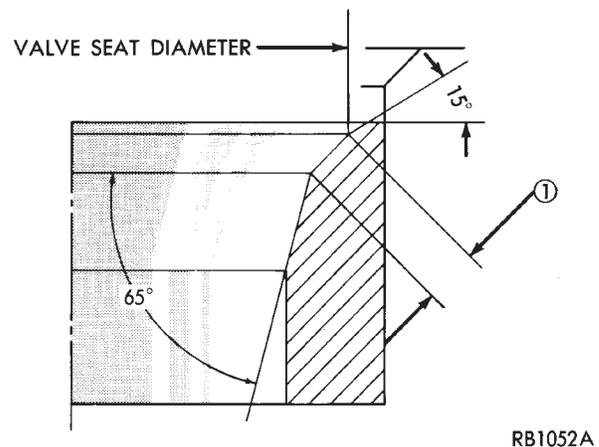

Fig. 24 Refacing Valve Seats
(6) When seat is properly positioned the width of intake seats should be 1.75 to 2.25mm (0.69 to .088 inch). The width of the exhaust seats should be 1.50 to 2.00mm (.059 to .078 inch) (Fig. 24 Dimension 1).